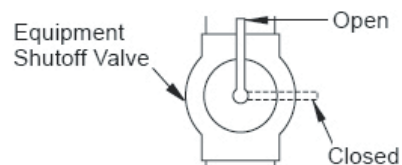

Figure 8 - Equipment Shutoff Valve
Installation must include an equipment shutoff valve, union and plugged 1/8" NPT tap. Locate NPT tap within reach for test gauge hook up NPT tap must be upstream from fireplace (see Figure 8, page 13).
We recommend that you install a sediment trap in supply line as shown in Figure 8. Locate sediment trap where it is within reach for cleaning. Install in piping system between fuel supply and fireplace. Locate sediment trap where trapped matter is not likely to freeze. A sediment trap traps moisture and contaminants. This keeps them from going into fireplace controls. If sediment trap is not installed or is installed wrong, fireplace may not run properly
1. Open equipment shutoff valve (see Figure 8).